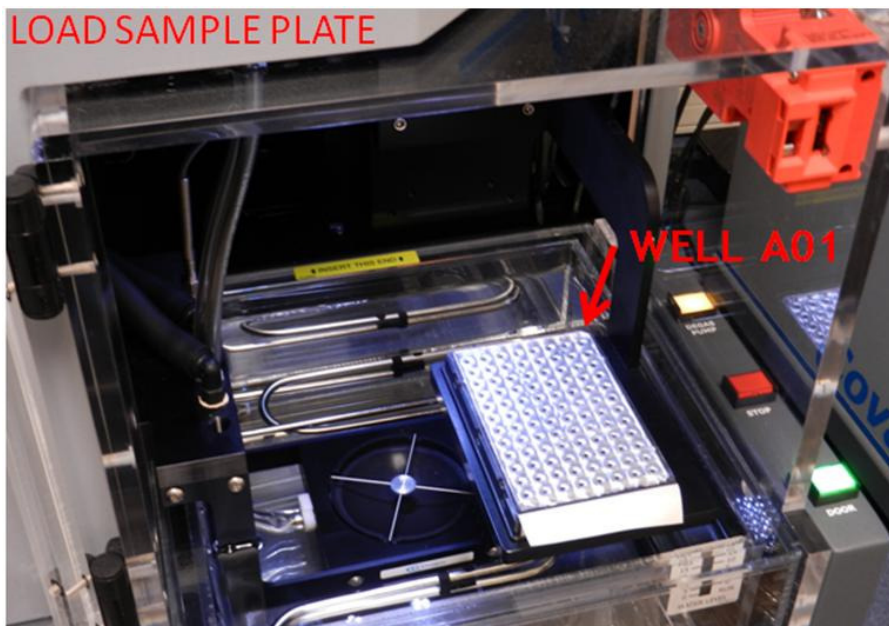

Figure 10: Sample Plate Positioning
- 2.4.3. Place the plate containing covaris tubes in the plate holder with sample A1 of the plate on the far right. See Figure 10.